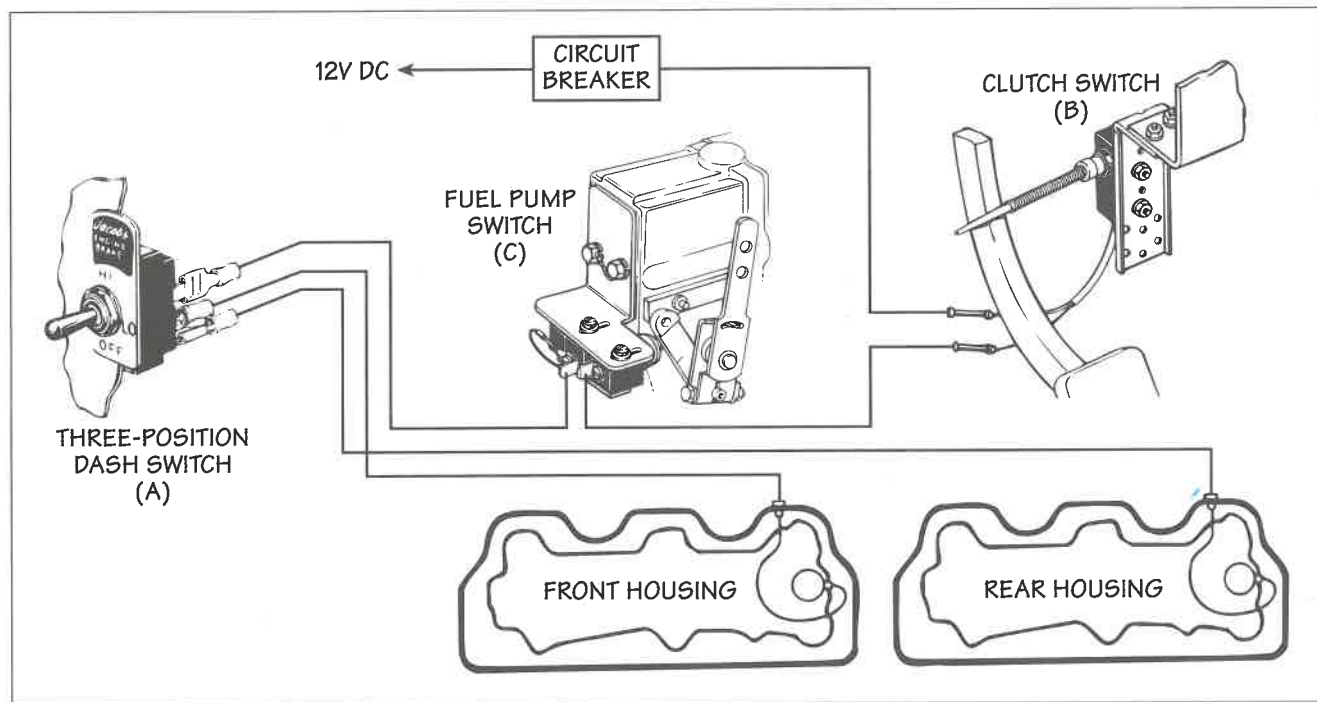

FIG. 22
Refer to fig. 22, page 10 for the following:
5. Cut wires to the proper length and secure them with ties. Connect the wires as shown in Fig. 22.
Complete the wiring. Refer to the wiring diagram in Fig. 22.